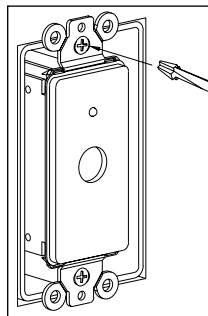

Figure 6
4. Secure the IRR4D+ to the electrical box or p-ring. Insert the 1 1/4" long device screws into the oblong-shaped screw holes on the top and bottom of the IRR4D+. Note that the oblong shape of the screw holes allow you to position the IRR4D+ so that it is vertical. Position the IRR4D+ so that the screws are aligned with the threaded holes in the electrical box or p-ring. Tighten the screws using a phillips screwdriver. **DO NOT OVER-TIGHTEN.** In some instances, you may need to loosen these screws several turns to allow the IRR4D+ to fit flush with the Decora cover plate. See (Figure 6).